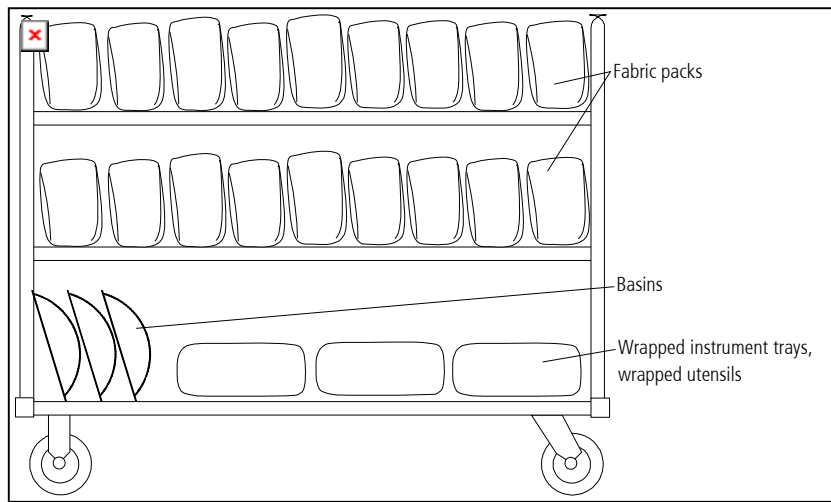

Figure 8-3: Loading cart with combined (solid) load
- In loads which combine fabrics and hard goods (instruments, utensils), place fabric packs on the upper shelves (refer to Figure 8-3).